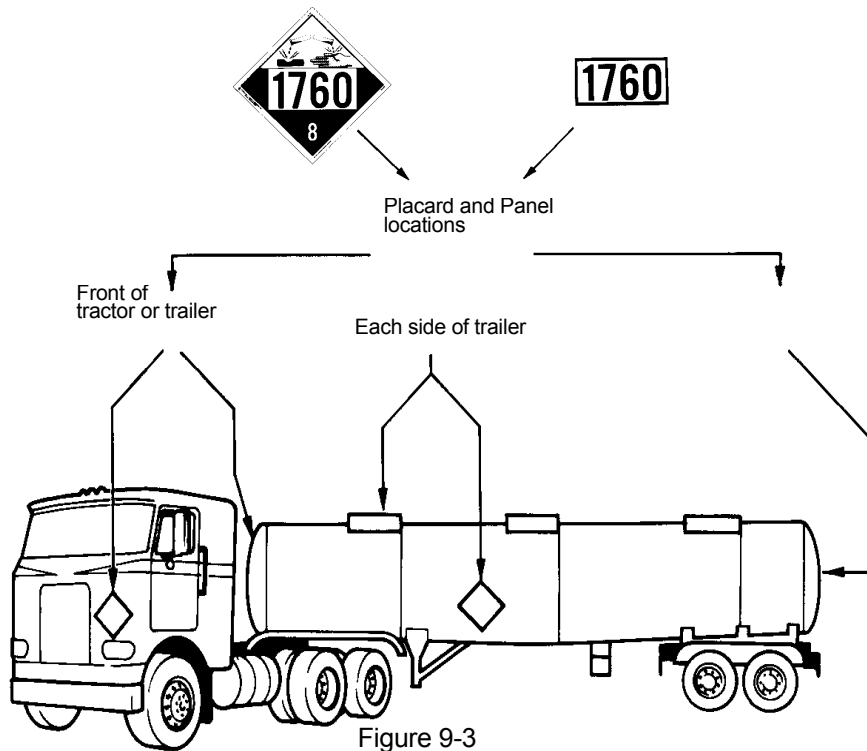

Figure 9-3
**Placards** are used to warn others of hazardous materials. Placards are signs put on the outside of a vehicle, which identify the hazard class of the cargo. A placarded vehicle must have at least four identical placards. They are put on the front, rear, and both sides of the vehicle (see Figure 9-3). Placards must be readable from all four directions. They are 10 3/4 inches square, square-on-point, in a diamond shape. Cargo tanks and other bulk packaging display the identification number of their contents on placards or orange panels or white square-on-point displays that are the same size as placards.